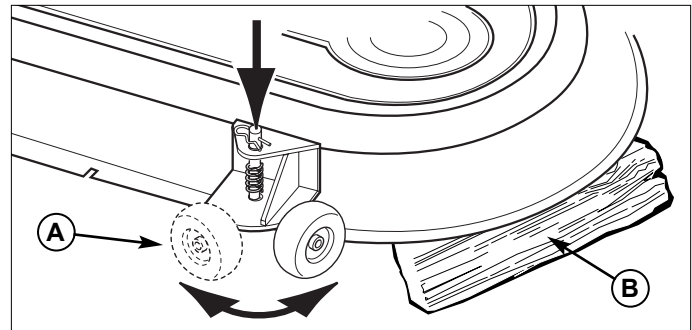

Figure 10. Gauge Wheels
2. Place two, 2" x 4" blocks (B, Figure 10) under the outside edges of the mower.
6. Remove the hairpin clip, push down on the top of the spindle, and rotate the gauge wheel (A, Figure 10) into sliding position. Replace the hair pin clip.
3. Place two, 2" x 4" blocks (B, Figure 10) under the outside edges of the mower.